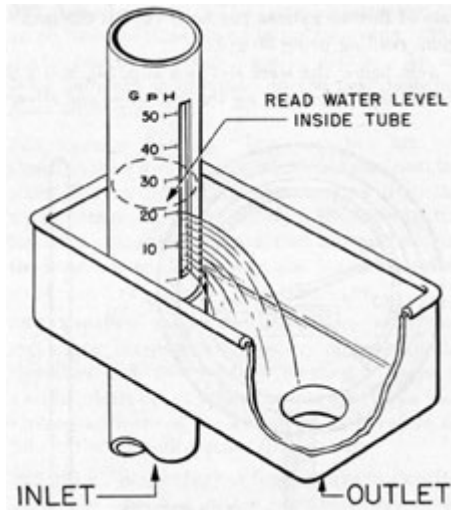

Figure 3-5. Weir.
**3C3. Weir.** The weir (Figure 3-5) measures the rate of flow of the overflow brine discharge. The overflow pipe leads out at the bottom of the unit,